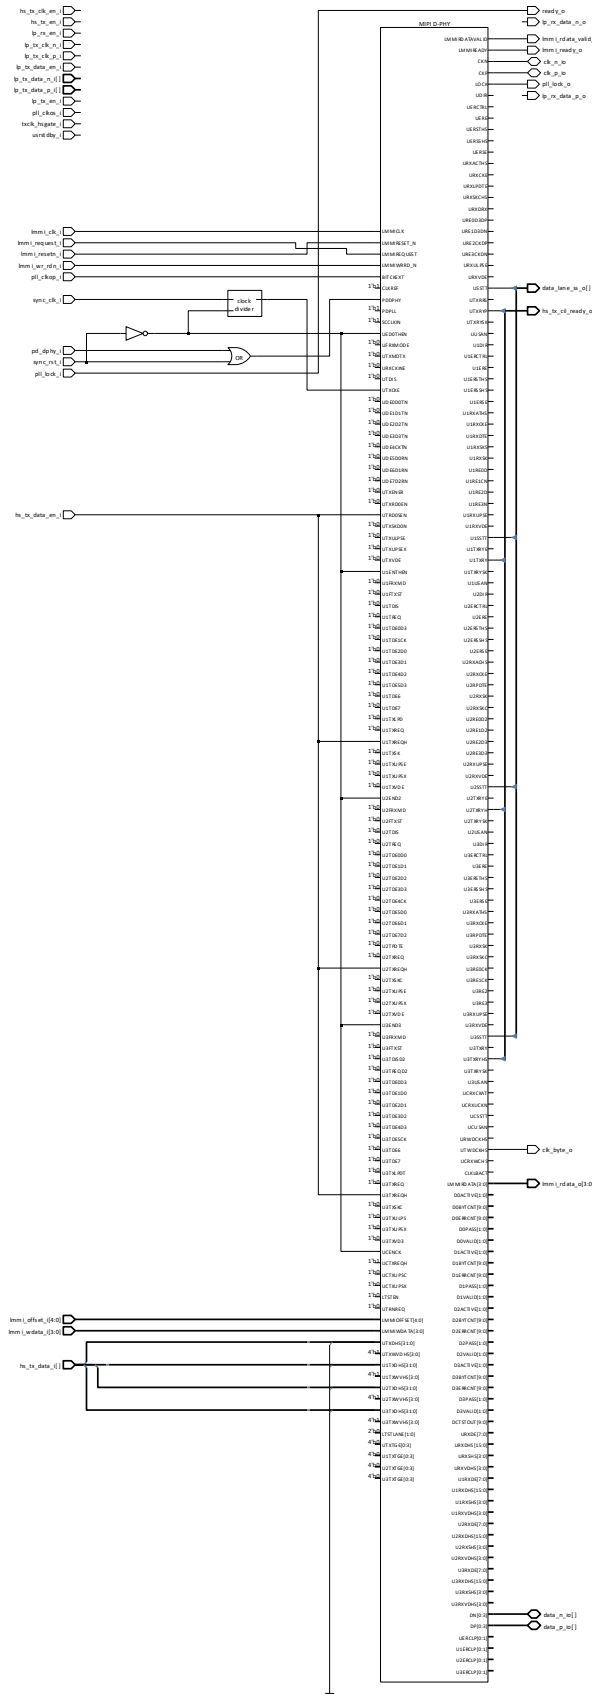

Figure 4.2. MIPI DSI Transmit Interface with CIL – Hardened D-PHY Module
- Figure 4.1 and Figure 4.2 show the signals connected to the fabric when the Hardened D-PHY is configured for DSI transmit mode. The Lattice Radiant Software IP Catalog user interface settings automatically powers down unused lanes of the Hardened D-PHY.